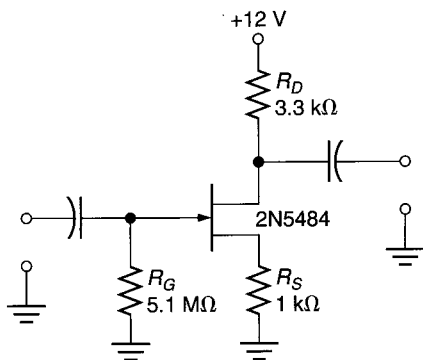

FIGURE 12.56
19. Determine the ranges of  $V_{GS}$ ,  $I_D$ , and  $V_{DS}$  for the circuit shown in Figure 12.56. The 2N5484 is described in Problem 7.